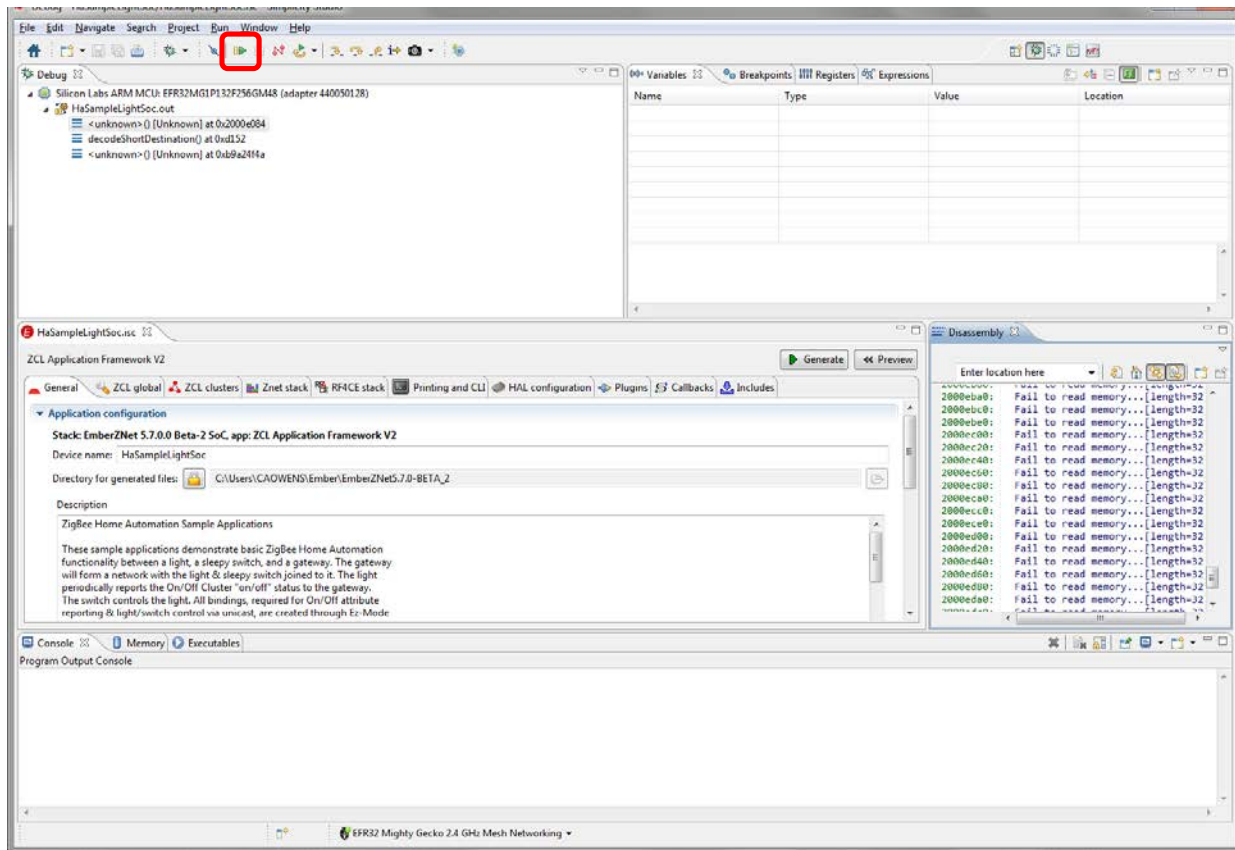

Figure 27. Debug Window
3. In the Debug window, click **[Resume]** to start the application running on the WSTK (Figure 27).